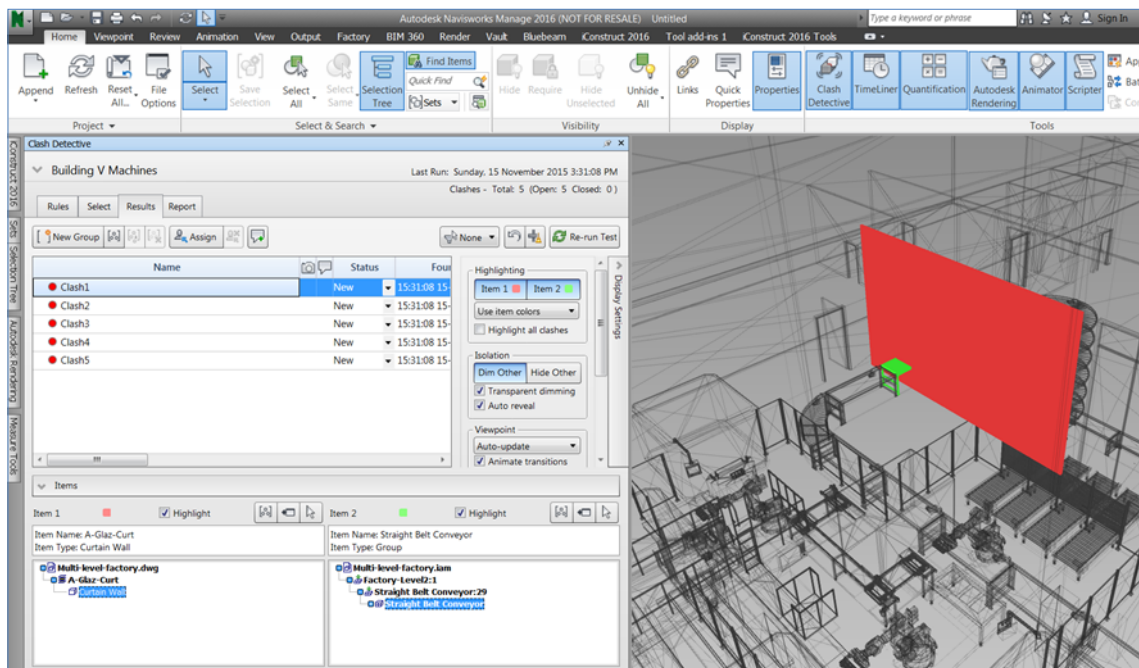

FIGURE 15: VIEWING THE CLASH RESULTS
9. Click the **Run Test** button; the clash test will be run between the selected files and the results will be displayed, as shown in Figure 15.